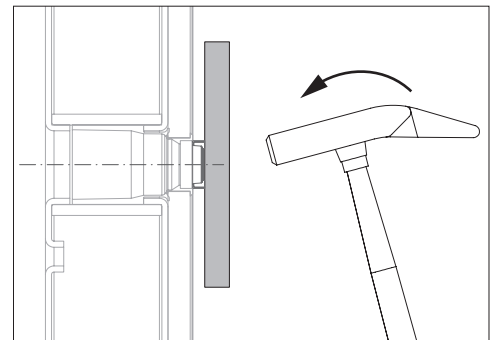

Fig. A21.04b
2. Knock in the washer (**5.1**) flush with the support and hammer. (Fig. A21.04b)